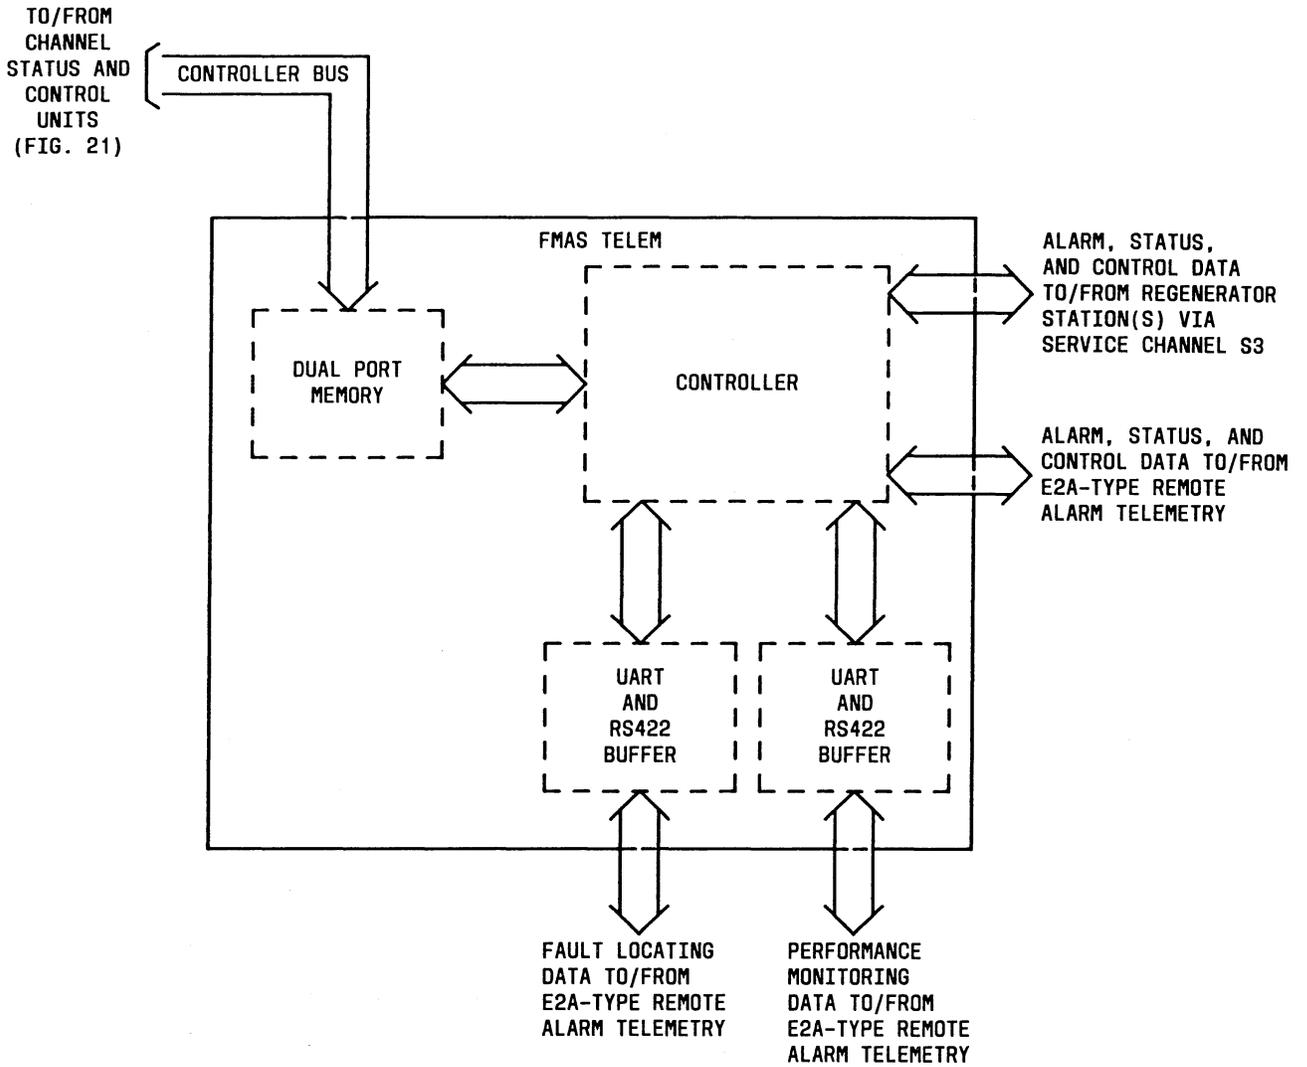

Fig. 24—TABS AS&C Telemetry with FMAS Remote Performance Monitoring and Fault Locating
- Figure 24—TABS AS&C Telemetry With FMAS Remote Performance Monitoring and Fault Locating